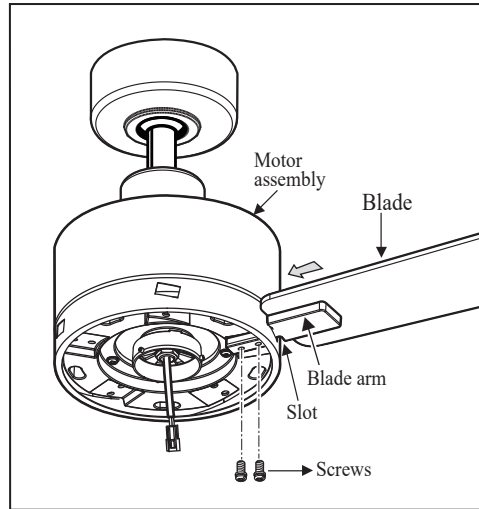

Figure 17
5. Insert the blade through the slot in the housing. Align the holes in the blade arm and the fan motor assembly and secure with a blade arm attachment screw with lock washers. (Figure 17)